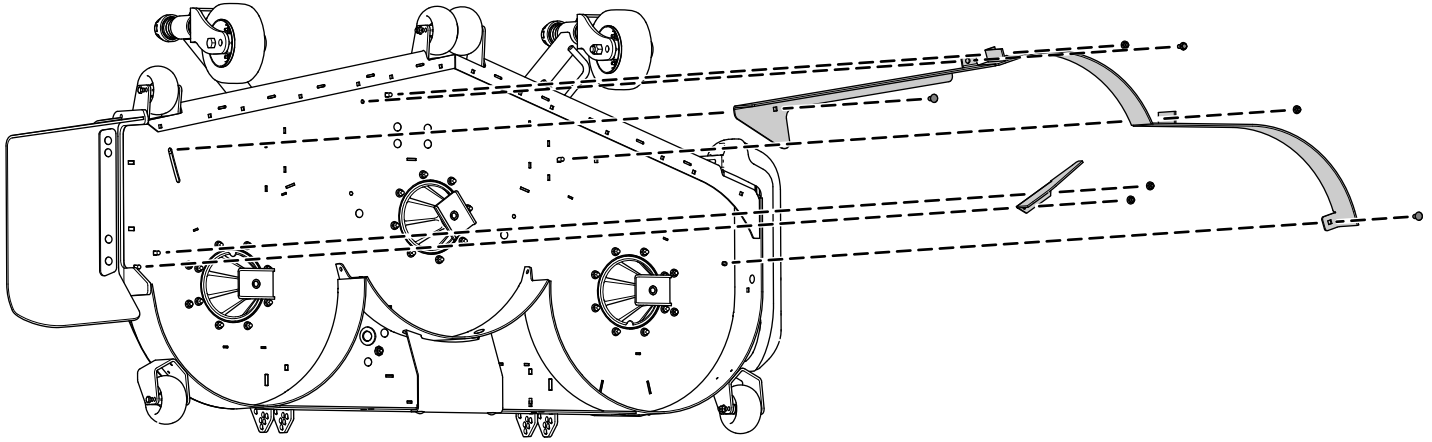

Figure 2
1. Remove the 2 flange nuts holding the baffles in place (Figure 2).
2. Remove the 2 bolts and 2 nuts from the adjustable flow baffle (Figure 2).
3. Remove the 3 bolts and 3 nuts holding the baffles in place (Figure 2).